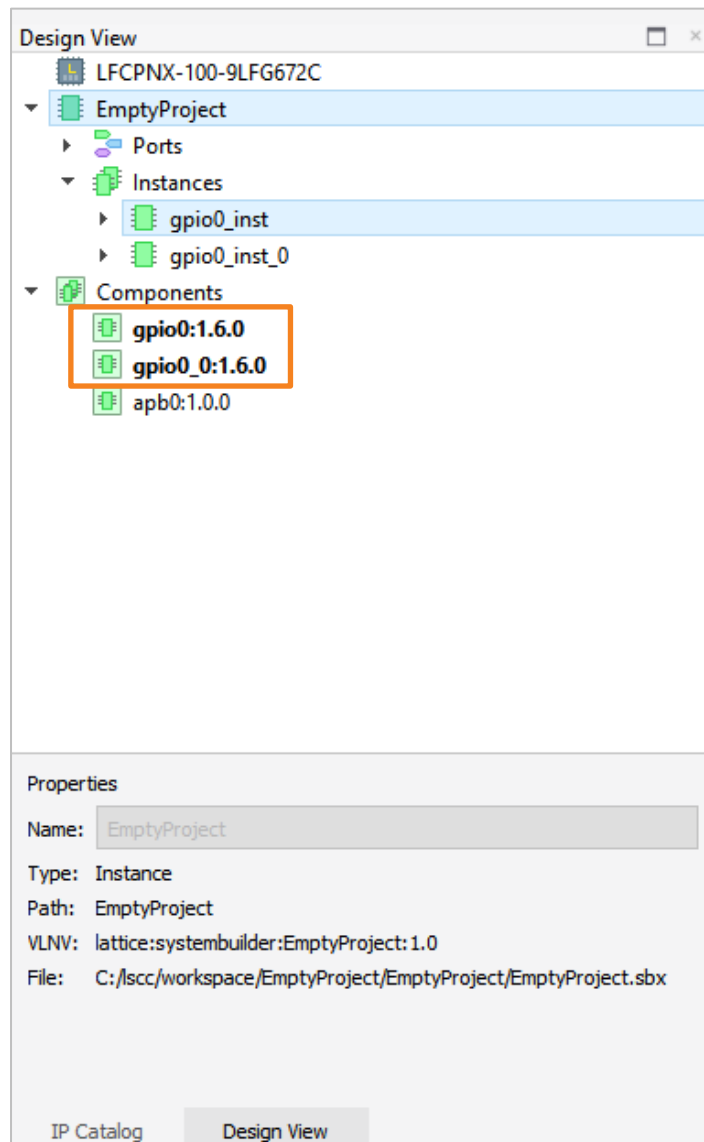

Figure 2.68. Design View
1. In the List view of the Design View (Figure 2.68), go to the Components folder. The deleted module can still be found in the List view in plain text. Those not deleted are shown in bold-faced text.